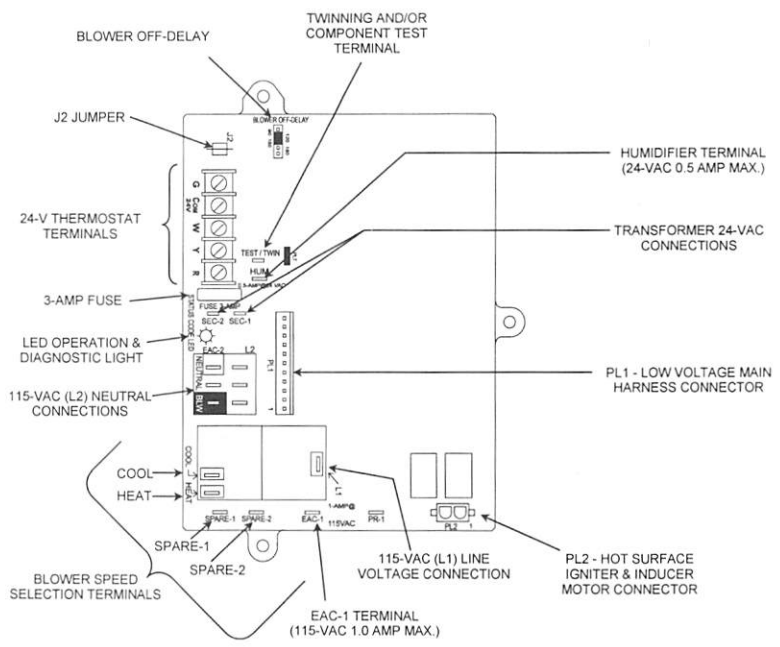

Figure 2 – New Style Furnace Control Board
2. A COOLING OFF DELAY DEFEAT JUMPER "J2" is provided. It is located in the upper left corner of control board (see Fig. 2). When cut, this permanently reduces the 90 second blower-off delay in the cooling mode, to 5 seconds.
3. All 115-volt neutrals are grouped together in one location of board (see Fig. 2)
4. Humidifier connection is removed from thermostat terminal block. It is now a ¼ inch spade terminal, next to the thermostat terminal block (see Fig. 2)
- a. The 11-pin connector connects to PL1 on the furnace control board, (see Fig. 2 & 3).
- b. The 2-pin connector which has 2 black wires connects to PL2 on the furnace control board, (see Fig. 2 & 3).
- c. The 2 white wires connect to the 115-volt Neutral spade connections, located in front of PL1 on the new furnace control board (see Fig. 2 & 3).
5. Connect the transformer to the new furnace control board, (see Fig. 2).
6. Connect black wire from furnace auxiliary junction box to L1 on the new furnace control board. L1 is located on the blower enable relay. (see Fig. 2).
7. Connect white wire from furnace auxiliary junction box to one of the 115-volt Neutral spade connections located in front of PL1. (see Fig. 2).
8. Connect the blower motor leads to the new furnace control board, (see Fig. 2).
11. Set blower off delay. **Blower Off Delay Jumper Select** is located on the top-center portion of board. (See Fig. 2) It is factory set at 120 seconds.